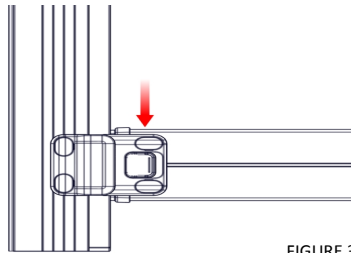

FIGURE 3
Step 1: 'Release Latch' on locked side (see figure 3 & 4)